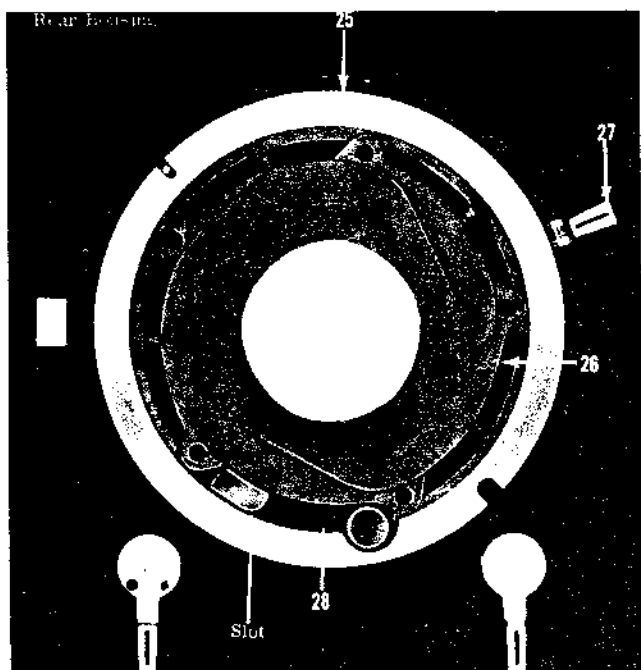
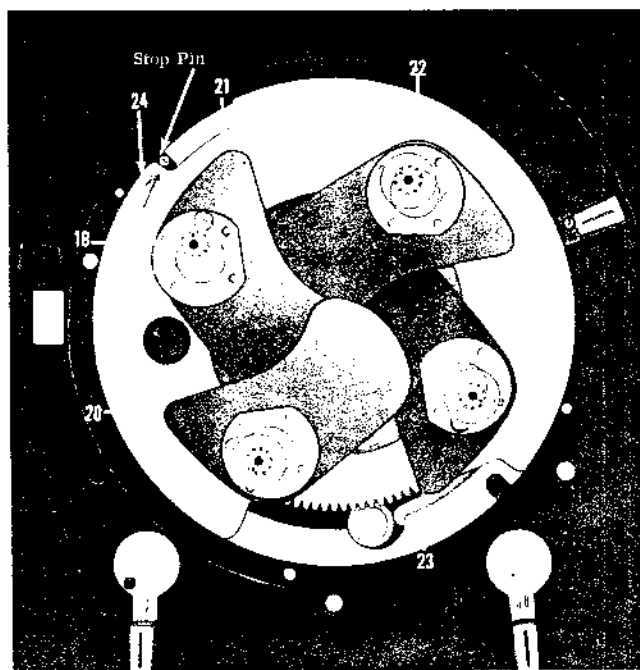

Figure 6.
Figure 7.
- a. Apply a thin coat of lubricant (39484P8) to inside diameter of diaphragm pivot plate (28, Figure 6). Locate diaphragm pivot plate in rear housing with five posts on plate facing upward and pivot on rear side located in slot in rear housing. Rotate pivot plate clockwise until pivot is against left side of slot.
- b. Locate diaphragm plate assembly (27) in rear housing with lever portion located all the way to the right (open position) in recess.
- c. Assemble five diaphragm leaf assemblies (26) over five posts on diaphragm pivot plate, interleaving diaphragm leaves as shown.
- d. Locate diaphragm pivot plate spacer (25) as shown.
- e. Assemble shutter leaf plate assembly (24, Figure 7) with four posts facing upward and stop pin on rear housing located against left side of upper opening in plate assembly.